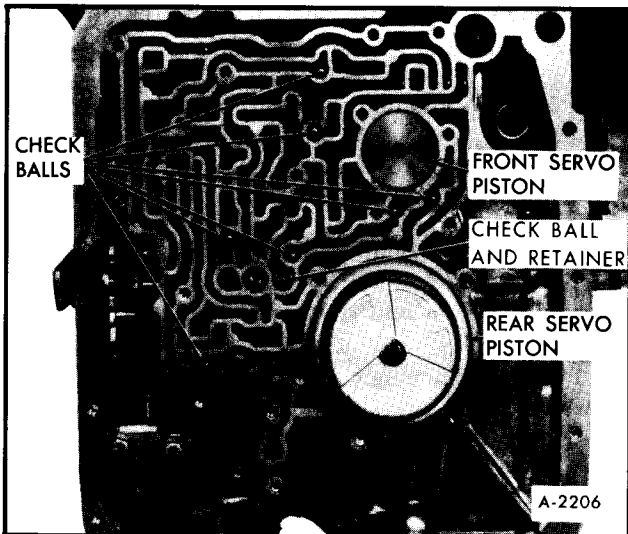

Figure 97—Check Ball Location
1. Install seven check balls in cored passages, Figure 97. (Use petrolatum to retain balls in case.)